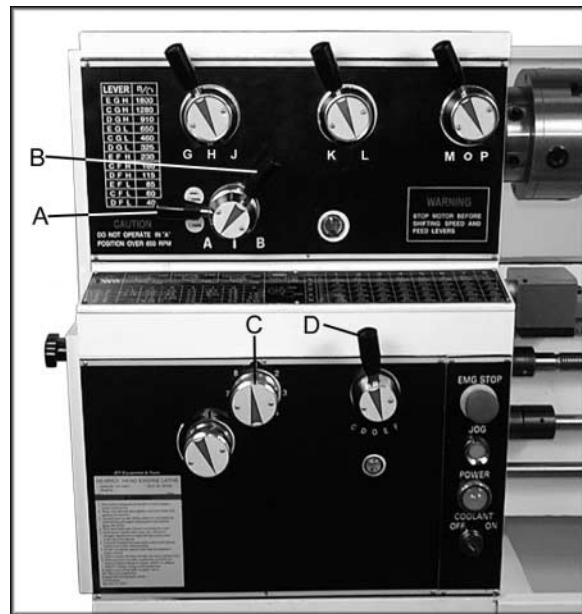

Figure 21
2. Set selector levers (A, B, C, & D, Fig. 21) to desired rate.
3. **Note:** for feeding, lever (D) will be set at "F" or "D", depending on desired feed rate.
2. Set selector levers (A, B, C, and D, Fig. 21) to desired rate.
**Note:** For threading, lever (D) will be set at "C" or "E", depending on desired thread.